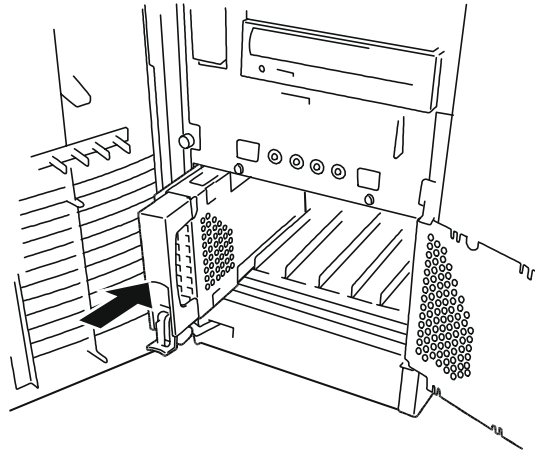

Figure 4-17. Installing a Disk Carrier into the Disk Bay
- Slide the drive carrier into the bay until it docks with the SCSI backplane connector. See Figure 4-17.